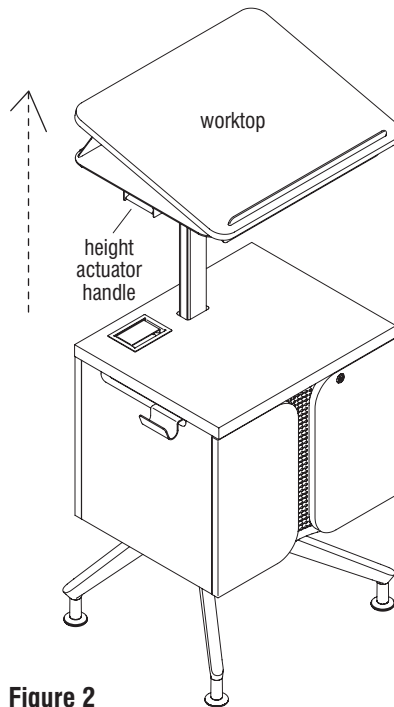

Figure 2
1. Locate the height actuator handle at the side of the lectern and press the actuator handle to automatically raise the lectern worktop height (Figure 2).